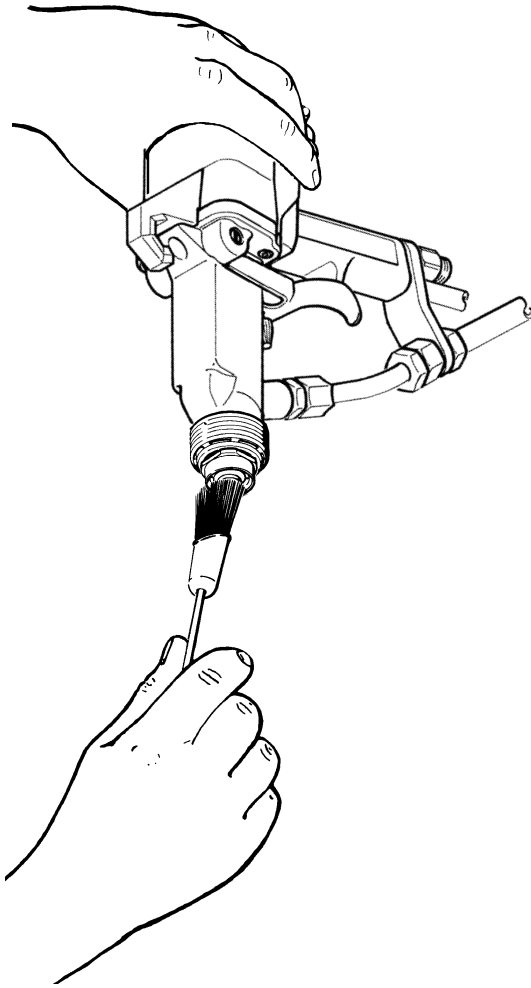

Fig 12
3. With the front of the gun pointed down, clean the air cap, fluid nozzle, and front of the gun, using the soft bristle brush and solvent. See Fig 12.